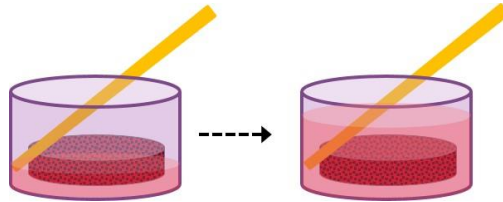

Figure 2: Addition of culture medium with BIOMIMESYS®
- a. Remove a part of the medium by keeping the tip on the side of the well (see figure 2). Do not worry if you touch the scaffold, it is robust and will not break easily. However, be careful not to aspirate BIOMIMESYS® with the tip.
#: cells out of focus; *: cells in focus, arrows indicate hyaluronic acid chains. Circles indicate the normal phenomenon of forming bubbles during BIOMIMESYS® hydration following medium addition (figure 2). Bubbles will disappear after 24h to 48h in culture.